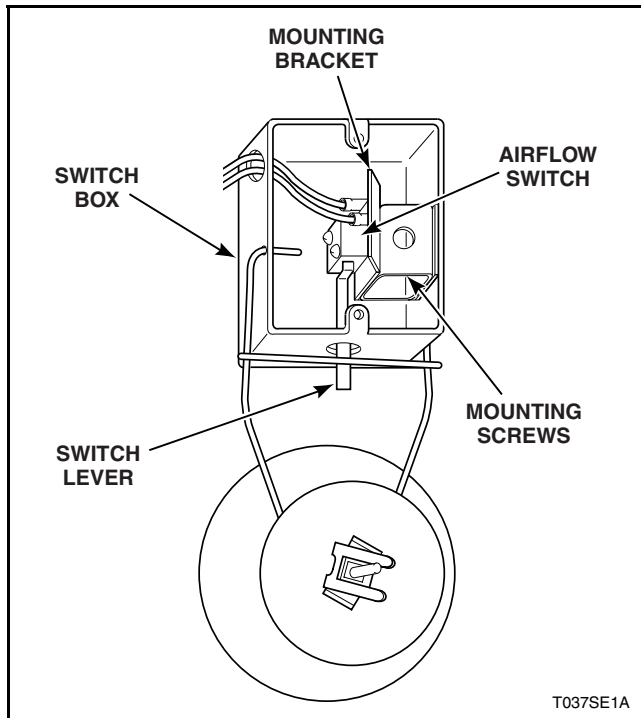

Figure 11
- b. Disconnect wires from switch. Refer to *Figure 11*.
- c. Remove screw(s) holding switch box to rear of tumbler. Refer to *Figure 11*.